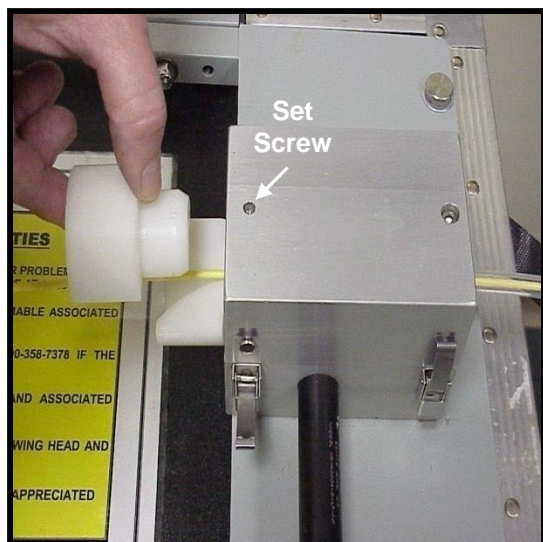

Figure 48
13.7.1 To adjust, use a 1/16" Allen wrench (Installer Provided) and turn the set screw clockwise (CW) to increase plunger tension or counter-clockwise (CCW) to decrease plunger tension on the Fiber Guides. **See Fig. 48.**